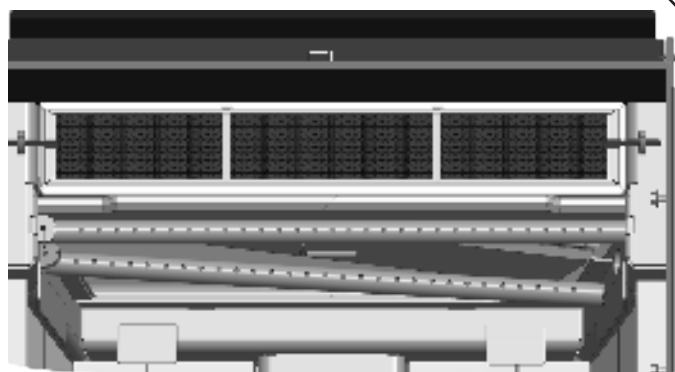

Figure 3.12. Remove the rear air tube by sliding to the right and pulling out.
3. Slide the rear tube to the right and pull the left side of the tube forward at the same time moving the tube to the left and remove the tube from the firebox. See fig. 3.12.